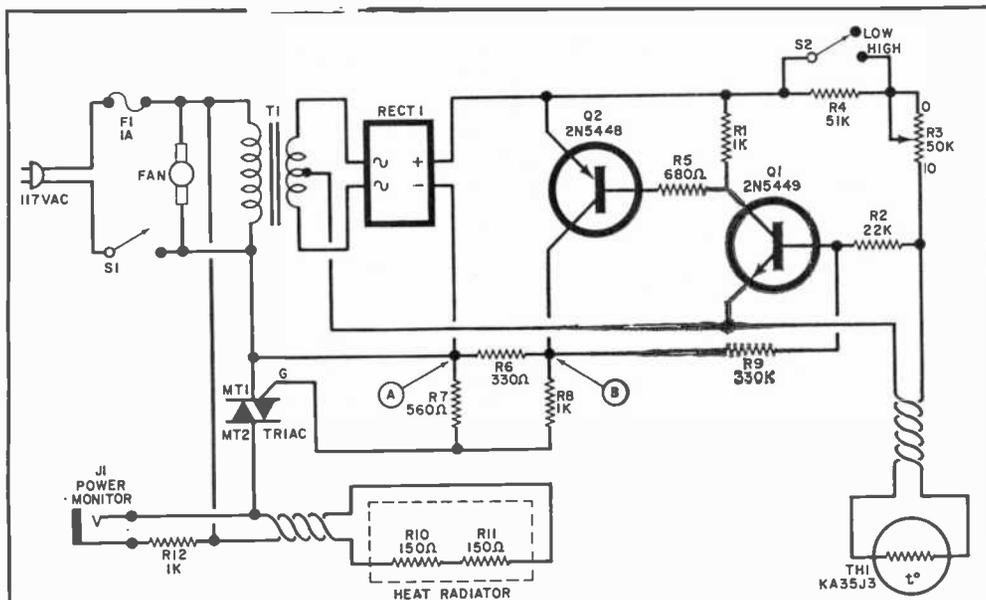

Fig. 1. Thermistor TH1 senses the heat radiated by power resistors R10 and R11.
When the electronic assembly is complete, temporarily disconnect the triac and connect a 10-volt dc voltmeter between points A and B of Fig. 1. With *R3* set to a low resistance, no dc voltage should be indicated between the test points. As the resistance of *R3* is increased, a 10-volt signal will appear. Make a check for both positions of range switch *S2* and note that the dc voltage appears at a much higher resistance on *R3* when *S2* is in the low range. If everything is OK, disconnect the unit from the power line and replace the triac.
**Test and Calibration.** Recheck the mechanical assembly of all cooler-mounted components, making sure that all elements are firmly secured and that all glued joints are hard and dry. Recheck all the wiring in accordance with Fig. 1. Keep in mind that power-line ac is present on some leads and be very careful to avoid the possibility of an electrical shock.
The environmental chamber creates hot or cold temperatures by balancing a heater against the cooling effect of dry ice. A fan continuously circulates the air in the chamber, while a thermistor-controlled regulator circuit (Fig. 1) adjusts the temperature to the desired value, which is set on a dial. Transistors *Q1* and *Q2* form a complementary Schmitt trigger which normally has about 1.5 volts of lag (hysteresis). Since the trigger is powered by full-wave rectified dc with no filtering, the circuit voltage sweeps from zero through about 17 volts at a rate of 120 times per second. This varying power reduces the hysteresis to a few millivolts and thus provides control to  $\pm 1$  degree.